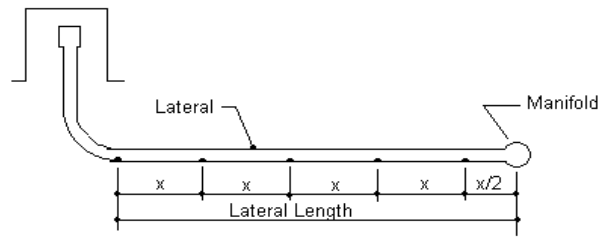

Figure 2 – Number of Orifices in a Lateral
4. Determine number of orifices in a lateral. How many orifices should be drilled in a lateral depends on the type of system, area allowed per orifice, and the design loading rate of the distribution cell. The number of orifices is determined by using the following equation. See figure 2.